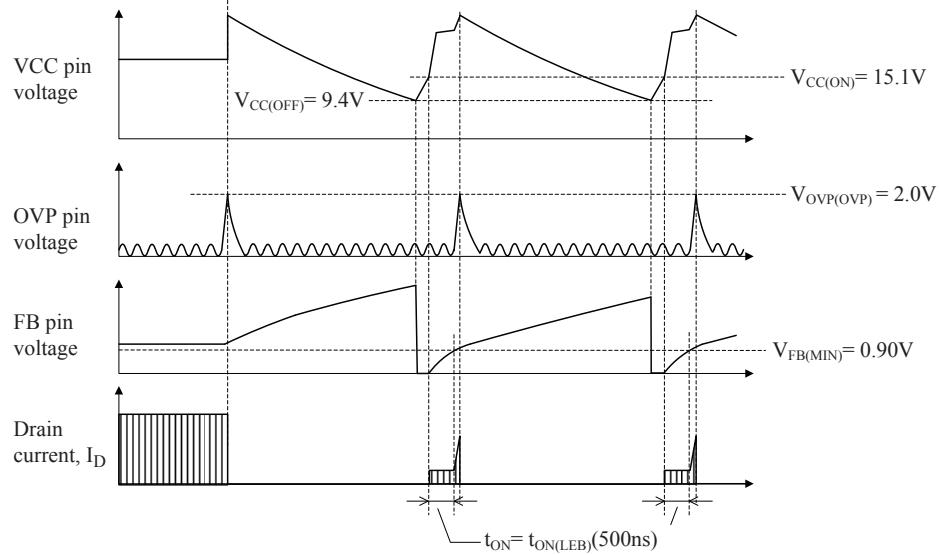

Figure 39. Waveforms when OVP pin OVP is being activated (LC552xD and LC552xF)
- OVP pin Overvoltage Protection. Figure 39 shows the OVP pin OVP function. When the OVP pin voltage with reference to the S/GND pin reaches and exceeds $V_{OVP(OVP)} = 2.0 V, OVP is activated.$